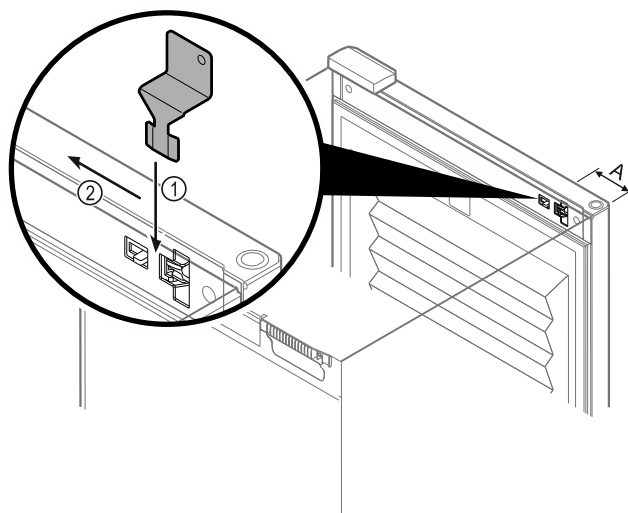

Fig. 187
- Insert the emergency release key in the specified position Fig. 187 (A) ≈ 100 mm (3 15/16 in).
- Insert the emergency release key Fig. 187 (1) from the top between the door and device body until it reaches the stop.
- Pull the emergency release key in the direction of the hinge. Fig. 187 (2)